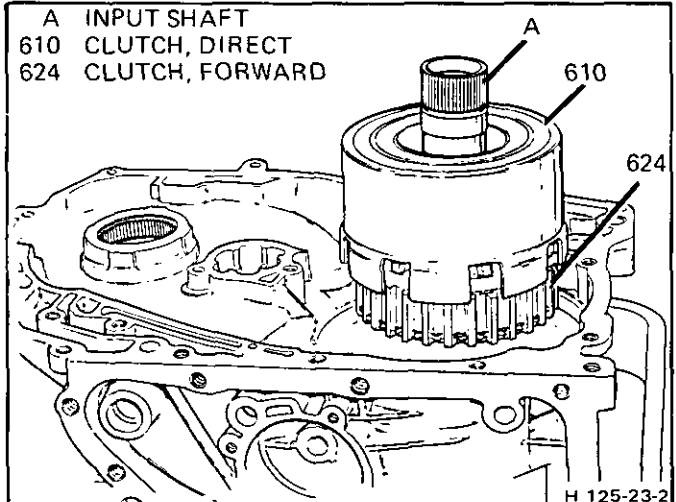

Figure 73 Installing the Clutch Assemblies
- Install or Connect (Figures 73 and 74)**